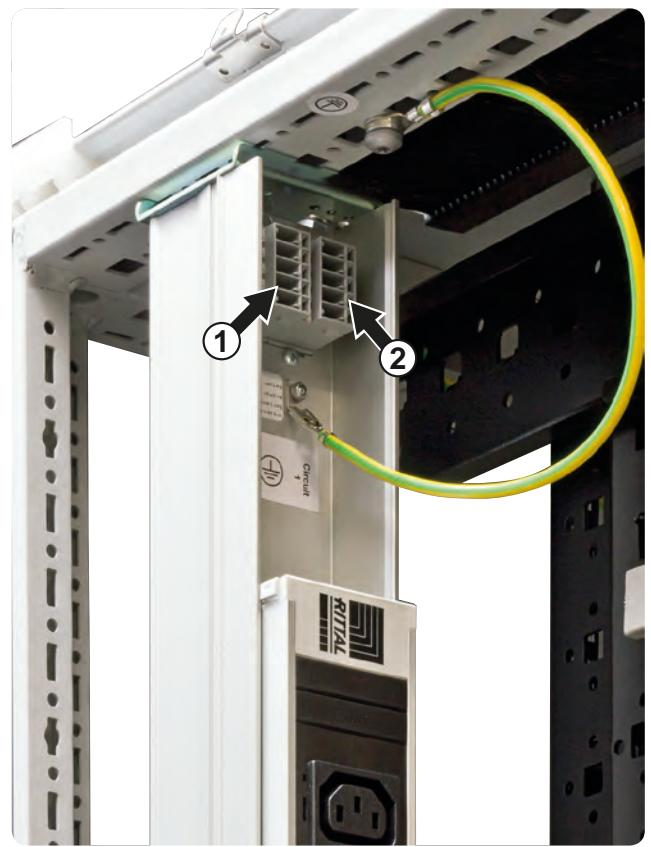

Fig. 7: Plugs for power connection: ① is for red circuit, ② for black circuit
- For the three modules in the red circuit (red arrow faces upwards), use the connection on the left side (① in Fig. 7).
- For the tree modules in the black circuit, use the connection on the right side (②).